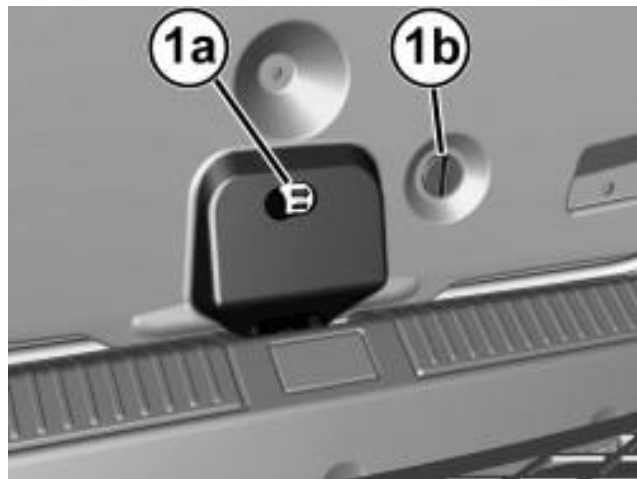

Figure 1 – Lid Lock Release
13. To be able to reopen the luggage compartment lid, even if it accidentally closes with the battery disconnected, before disconnecting the battery it is necessary to unscrew the cap (1b), release the pull cord hooked onto it and leave it hanging out of the luggage compartment. Then, by working on the pull cord, an emergency luggage compartment lid lock release can be obtained. The pull cord operates on the lever (1a) inside (Figure 1).